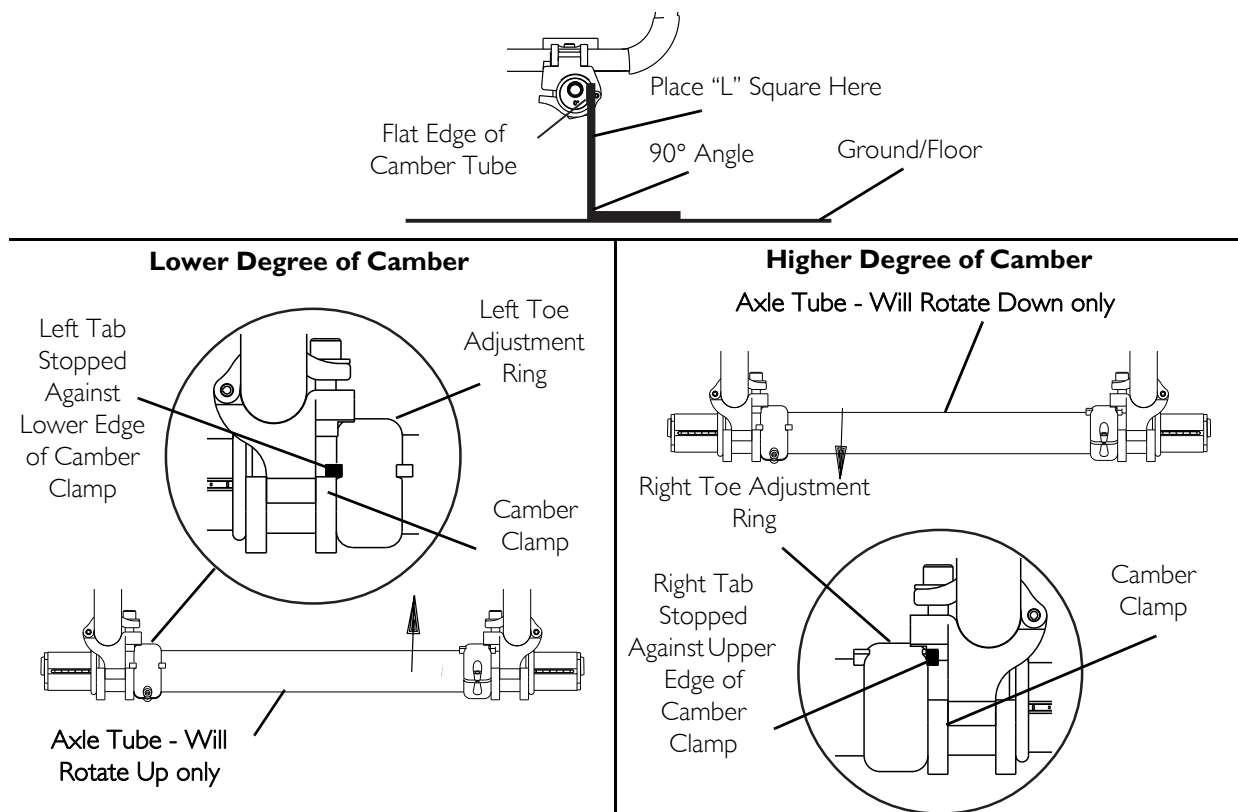

FIGURE 5.21 Adjusting the Axle Tube - Adjustable Camber System
NOTE: For this procedure, refer to FIGURE 5.21 on page 46.
2. Loosen the set screw that secures each toe adjustment ring to the axle tube (FIGURE 5.21).
3. Using an "L" square, rotate the axle tube until the flat edge of the camber insert is at a 90° angle with the ground/floor as shown in FIGURE 5.21.